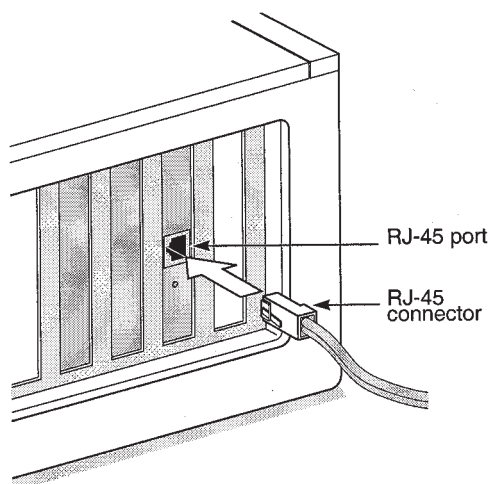

Figure 1-3 Connecting to the RJ-45 Port on the 3C900B NIC
- 1 Plug the RJ-45 connector on the twisted-pair network cable into the RJ-45 port on the NIC backplate. See Figure 1-3.**